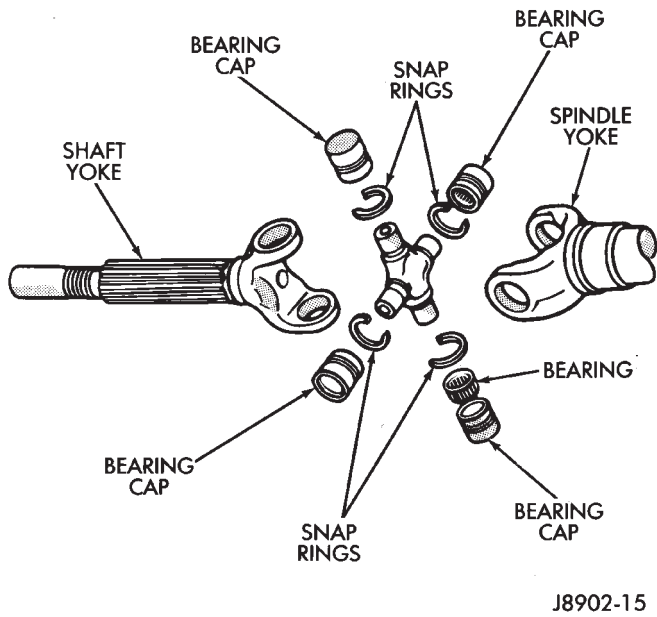

Fig. 4 Axle Shaft Outer U-Joint
- (1) Remove axle shaft.
- (2) Remove the bearing cap retaining snap rings (Fig. 4).